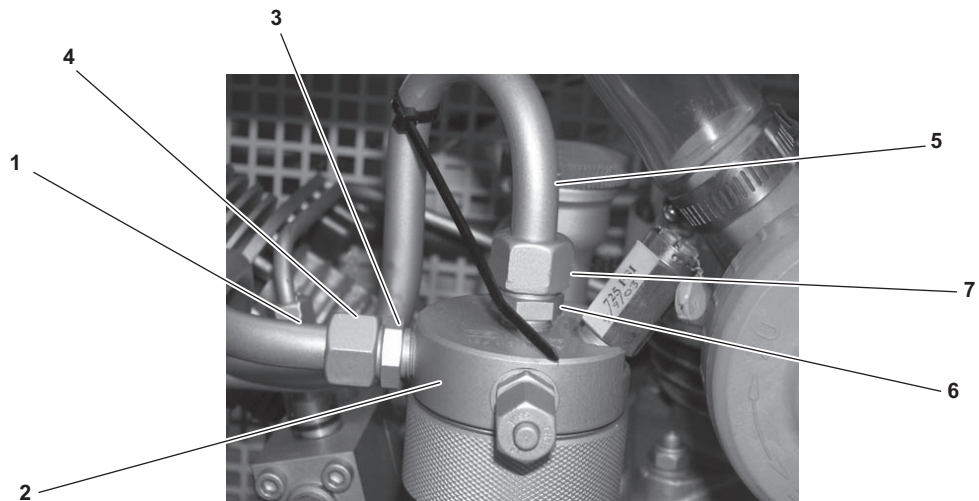

Figure 6-29. Flare Fitting and Nipple Fittings on Intermediate Separator
- (4) On the line (figure 6-29, item 1) coming from the 2nd stage intercooler and into the side of the intermediate separator (figure 6-29, item 2), hold the nipple fitting (figure 6-29, item 3) in place with a 11/16 inch wrench while using a 3/4 inch wrench to loosen (CCW) the flare fitting (figure 6-29, item 4). Remove the line from the intermediate separator.
- (5) On the line (figure 6-29, item 5) going to the 3rd stage cylinder from the top of the intermediate separator (figure 6-29, item 2), hold the nipple fitting (figure 6-29, item 6) in place with a 11/16 inch wrench and use a 3/4 inch wrench to loosen the flare fitting (figure 6-29, item 7).